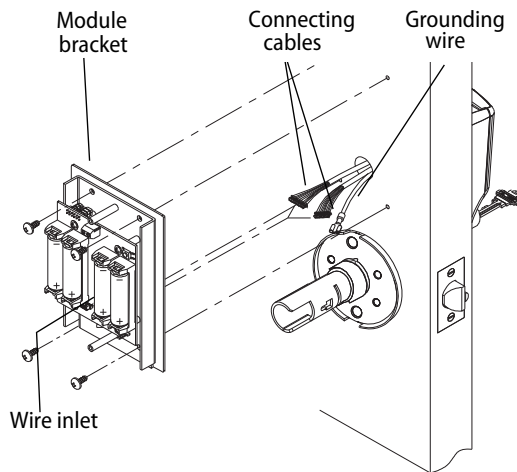

Figure 2 Inside circuit module
- 3 Thread connecting cables and grounding wire through the door cable hole. Use screws to attach the module bracket from the inside of the door. See Figure 2.